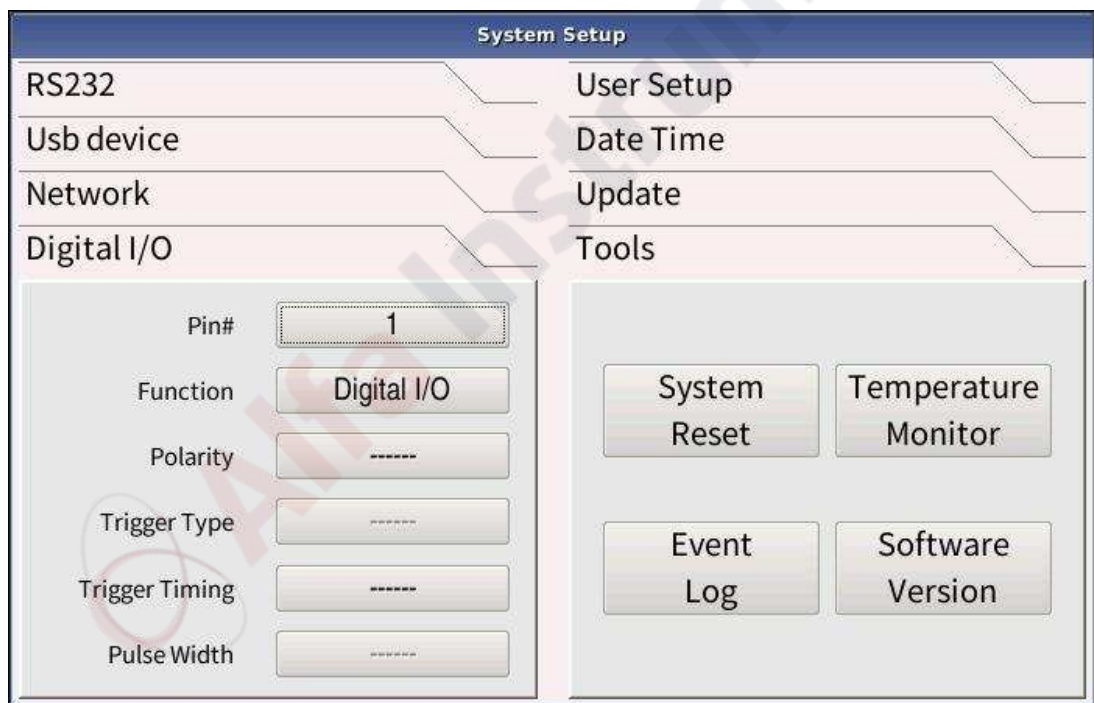

Figure 4-29 System Setup Page 4
**Operation:** (see Figure 4-29)
**Operation: (see Figure 4-29)**